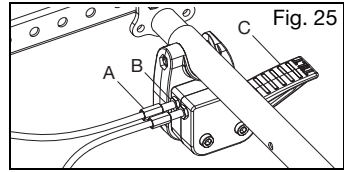

Fig. 25
- Depress the foot pedal (Fig. 25:C).
- Use two 10mm wrenches to loosen the jam nut (Fig. 25:B) while holding the adjuster (Fig. 25:A) in place. Repeat on the opposite side.